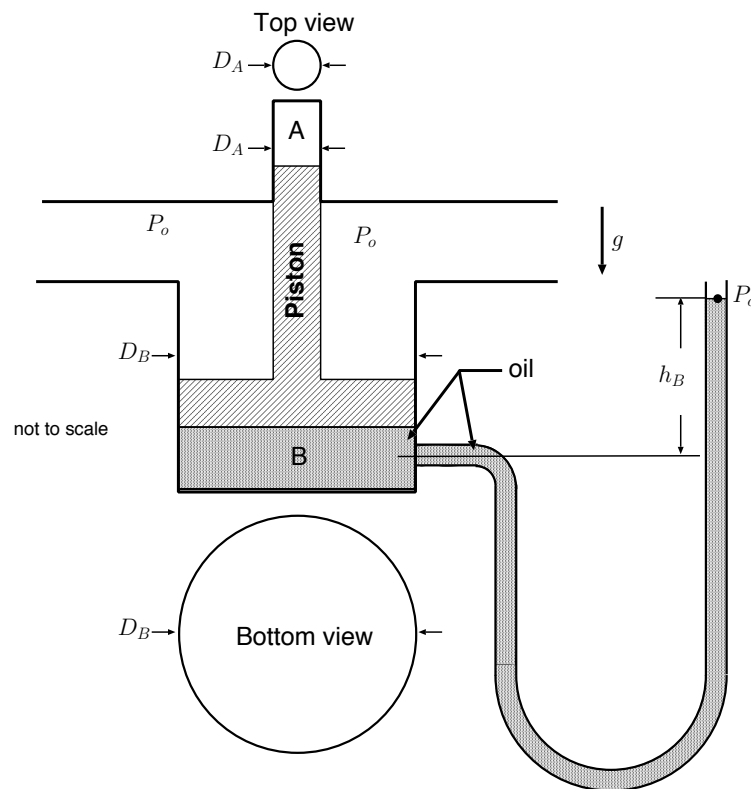

Figure 2: Piston and cylindrical volumes for Problem 3
3. Two cylindrical enclosed volumes, A and B, are connected by a piston, as shown in Figure 2. Cylindrical volume A contains a gas and the diameter of the piston on the end in contact with the gas is  $D_A = 4.5$  [cm]. The absolute pressure in cylindrical volume A is  $P_A = 398$  [kPa]. Cylindrical volume B contains oil and the diameter of the piston on the end in contact with the oil is  $D_B = 24$  [cm]. The surfaces of the piston in between the two cylindrical volumes are exposed to ambient air at  $P_o = 101.4$  [kPa]. The mass of the piston is  $12.02$  [kg] and gravitational acceleration is  $9.81$  [m/s2], acting downward as shown in the figure.